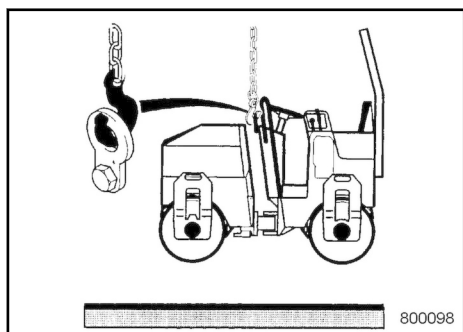

Fig. 110
1. Raise the machine ↪ Fig. 110, so that both drums can turn freely.